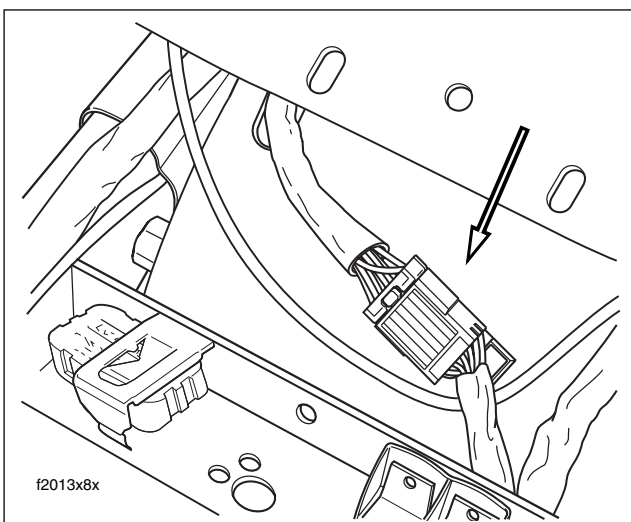

Figure 2-190. Rear Fender Lights Connector [7]
5. Disconnect rear fender lights connector [7] anchored at front of rear fender. Release anchor from fender hole. See Figure 2-190.
10. Connect rear fender lights connector [7] and snap anchor in rear fender hole. See Figure 2-190.